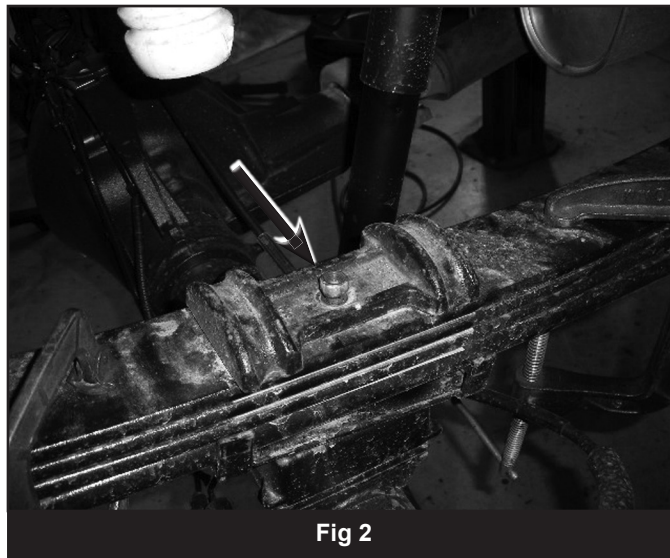

Fig 2
14. F-350 models with overload leaf, the spacer block to the overload leaf needs to be modified. Remove the front tabs (inside and outside) from the casting to give clearance to the new u-bolt. Use a sawzall to remove tabs. Use extreme caution to not create any sparks near the fuel tank. (Fig 2)